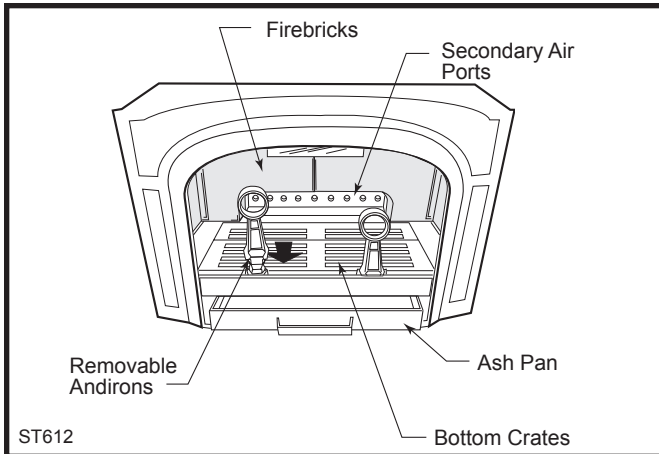

Fig. 28 A look inside the firebox of the Resolute Acclaim.
**IMPORTANT:** The andirons must be in place during operation. (Fig. 28) They not only help keep the **glass door panel** clear for fireviewing, but they assure proper placement of the fuel load for efficient clean-burning operation.